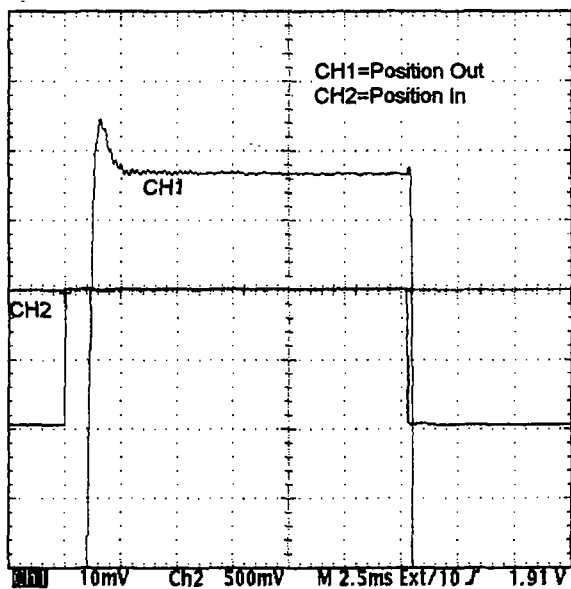

Figure 25
4. Adjust the oscilloscope channel monitoring V_p to 10mV/div. The system should now look like Figure 25.